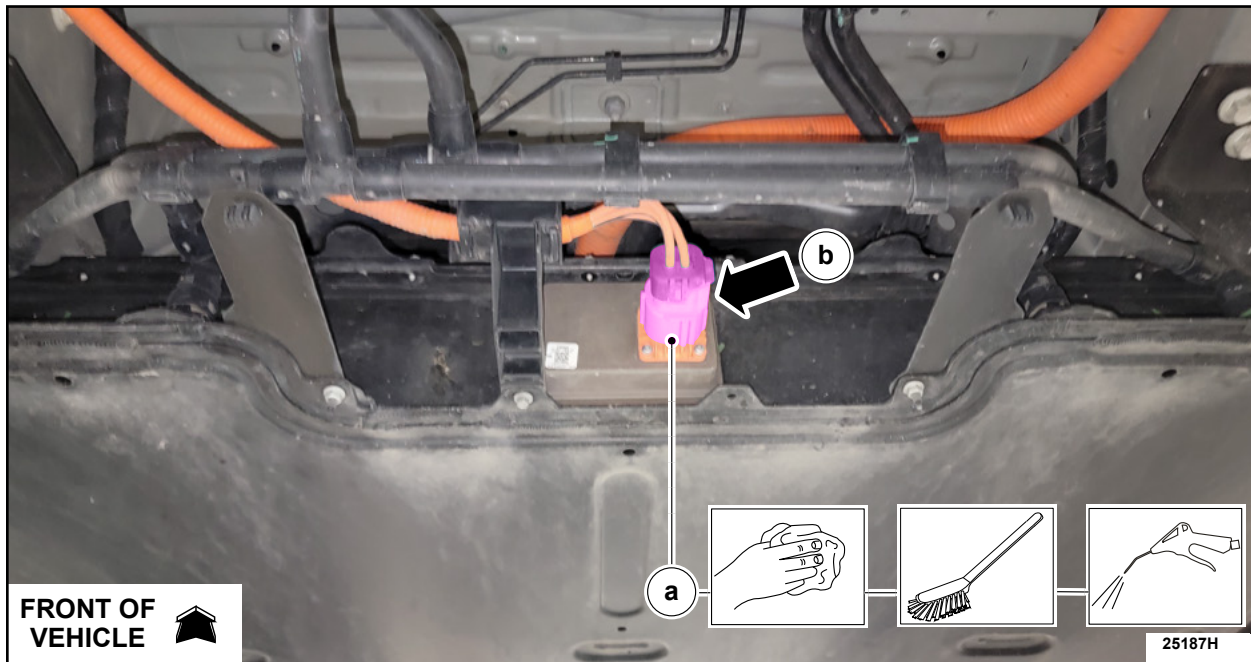

FIGURE 7
9. Disconnect the high voltage battery electrical connector. See Figure 7.